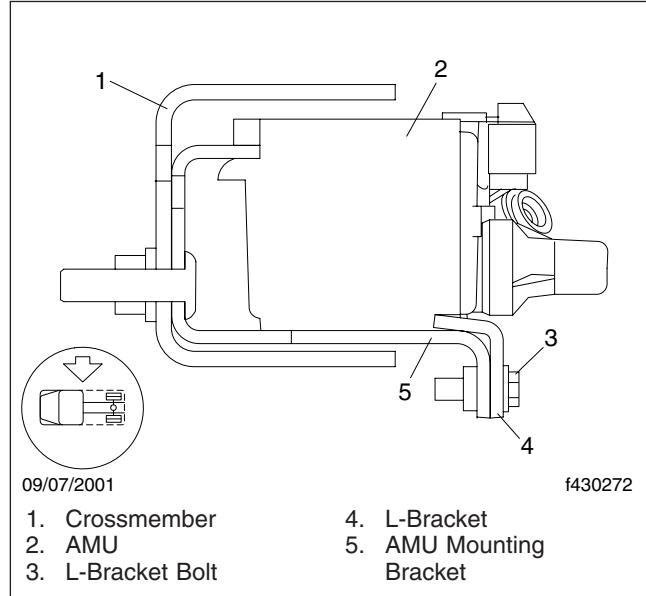

Fig. 2, Air Management Unit (AMU)
5. Loosen the bolts on the L-bracket that secure the AMU to the mounting bracket on the frame rail crossmember. See Fig. 2. This will allow the AMU to separate, allowing for easy removal of the module.
13. Firmly tighten the bolts on the L-bracket, securing the AMU in the mounting bracket. See Fig. 2.